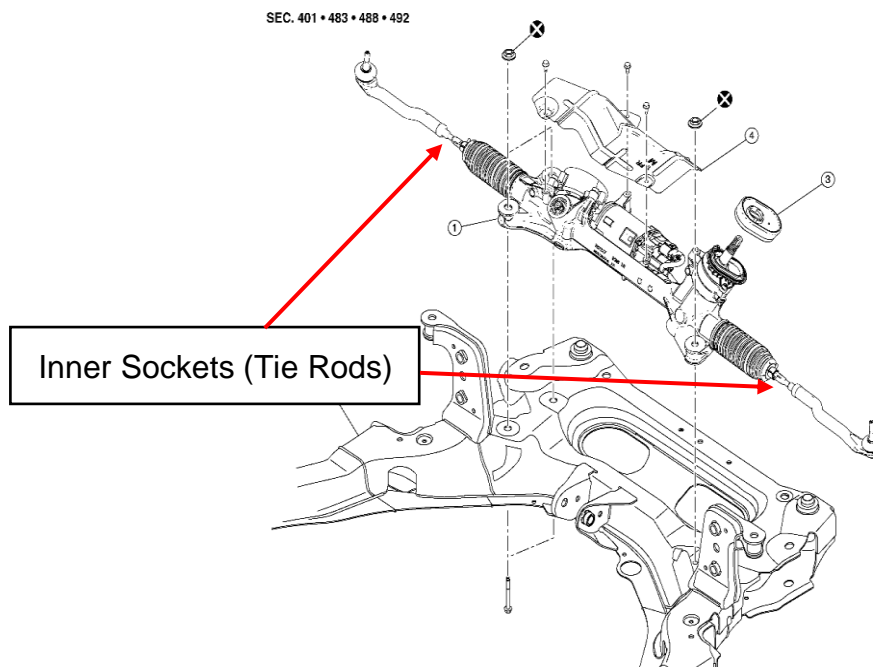

Figure 1
2. Locate the LH and RH inner sockets (tie rods). (Figure 1)